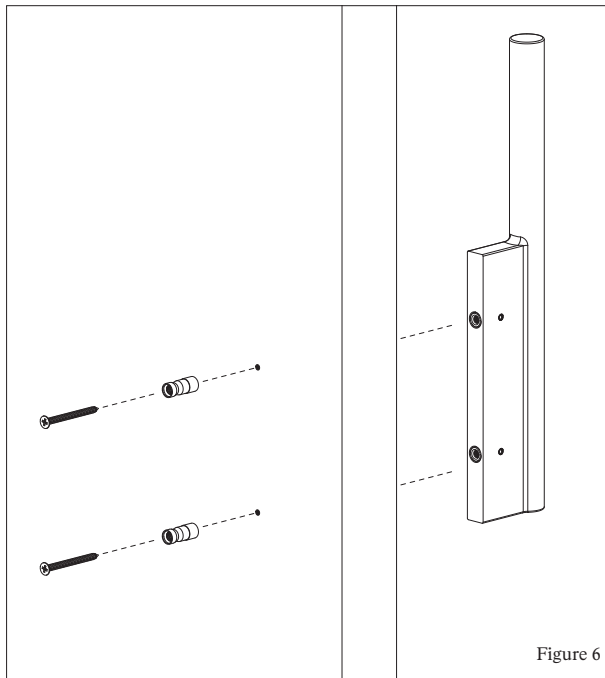

Figure 6
- 4.5. Insert bolt through hole and screw pencil spindle onto opposite end of thread. Hand tighten and ensure pencil spindles are flush against the door faces. (Figure 6)